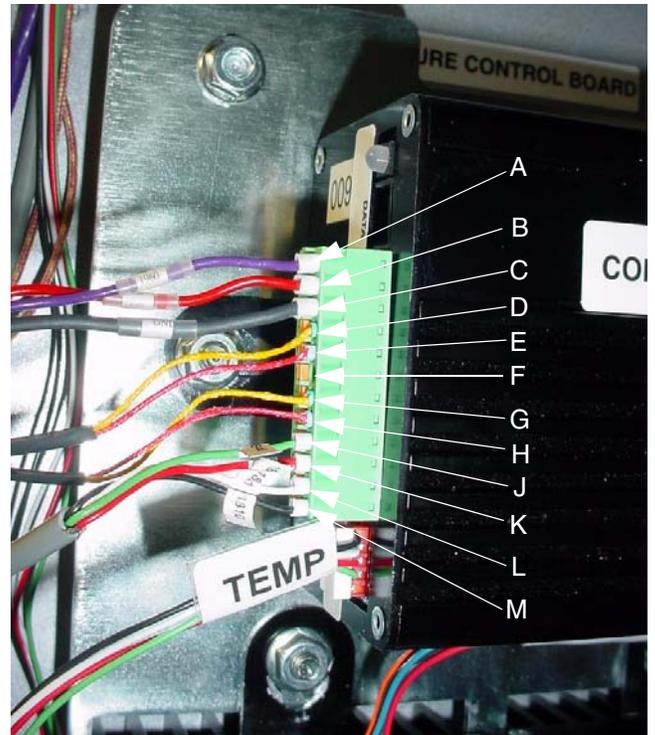

FIG. 23
10. Connect 5-pin connector (TEMP) below 12-pin connector. See FIG. 23.